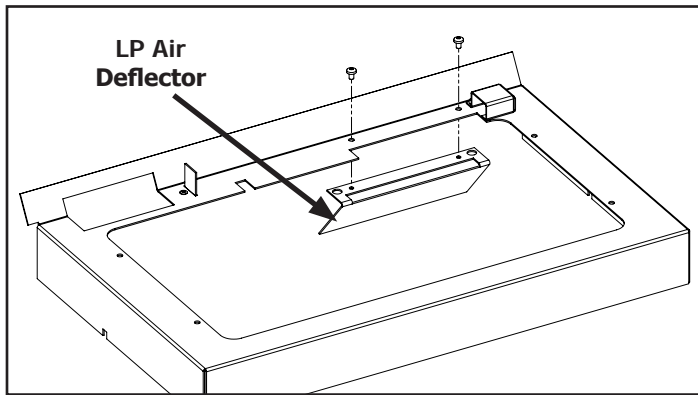

Figure 26. LP Air Deflector Installation
- d) **LP Conversions Only:** Install the supplied steel air deflector onto the burner tray as shown below (Figure 26) using a T20 screwdriver.